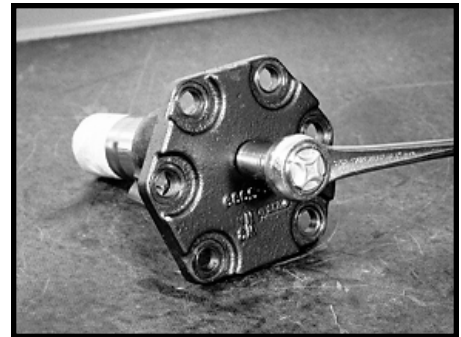

Figure 47
- 9. Finish removing the side cover (58) and sector shaft (50) as an assembly. Remove side cover gasket (57) and discard.
- 10. If the housing bearing has loose rolls, remove the bearing rolls from the bearing (21) race, count them and put them aside as a set for cleaning, inspecting and reassembly
- 11. Remove the sector shaft adjusting screw jam nut (59). SEE FIGURE 47. 3/4 inch socket required.